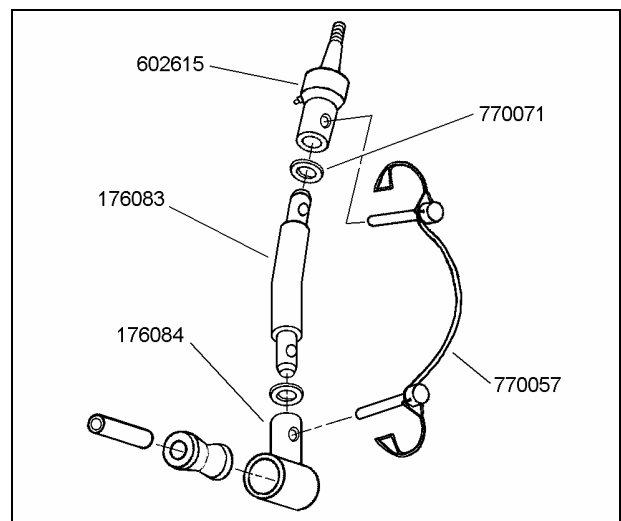

Figure 9
- 4) ☐ Connect the bottom socket assembly to a top swivel (602615) with the center section. Insert a set of locking pins (770057) as shown in figure 9.